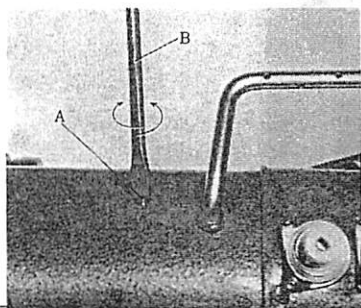
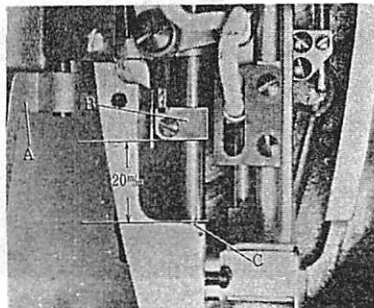

Fig. 23
Fig. 24
Always use the lightest pressure possible to allow higher working speed. It can be adjusted by turning the regulating screw (A, Fig. 23) toward ↘ arrow direction with a screw driver for more pressure, and for less pressure turn it toward ↙ arrow direction. (B, Fig. 23). Before adjusting pressure, open the face plate (A, Fig. 24) and confirm the distance between (B) and (C) Fig. 24 is about 20mm. If it is not 20mm, adjust it by the screw on the (B).